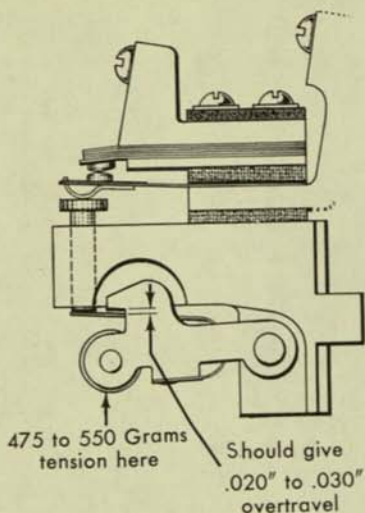

Figure 17. Plunger Circuit Breaker, Roller Cam Follower, Adjustment 3
3. When measured at the roller, 475 to 550 grams should be required to close the contacts with a $.020''$ to $.030''$ overtravel (Figure 17).